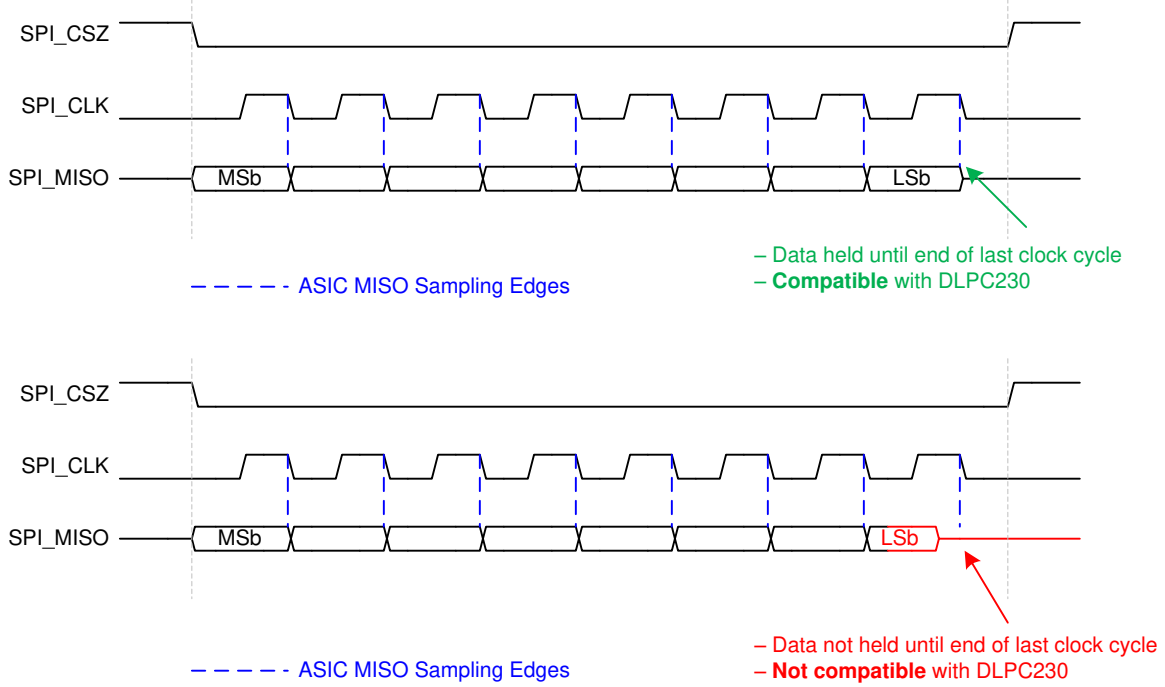

图 5-8. Flash Interface Data Capture Requirements
- (1) The DLPC23x-Q1 communicates with flash devices using a slight variant of SPI Transfer Mode 0 (that is, clock polarity = 0, clock phase = 0). Instead of capturing MISO data on the clock edge opposite from that used to transmit MOSI data, the DLPC23x-Q1 captures MISO data on the same clock edge used to transmit MOSI data. As such, the DLPC23x-Q1 Flash SPI interface requires that MISO data from the flash device remain active until the end of the full clock cycle to allow the last data bit to be captured. This is shown in 图 5-8.
- (2) The actual maximum clock rate driven from the DLPC23x-Q1 can be slightly less than this value.